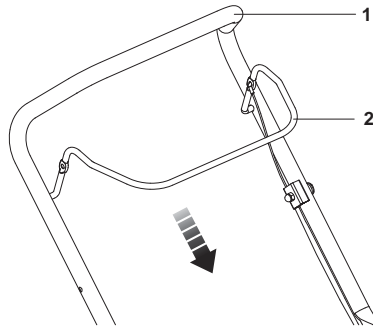

Fig. 18
Release the brake bar (2) to stop the engine and blade (Fig. 18).